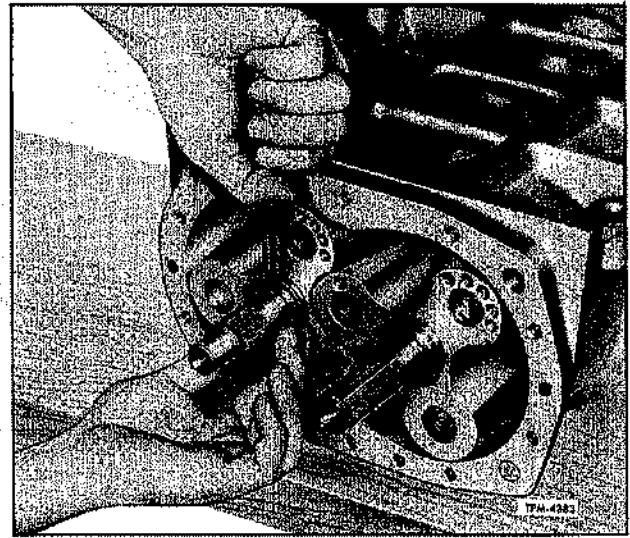

Figure 9—Removing Seal Ring
1. Use special pliers to spread seal ring and permit removal from ring carrier (fig. 9).
2. Use special pliers to spread seal ring sufficiently to permit installation in ring carrier groove. Refer to figure 9.